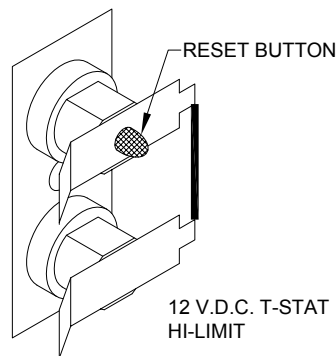

Figure 14
**MODELS: SW4D, SW6D, and SW6DM (See Figure 14)**